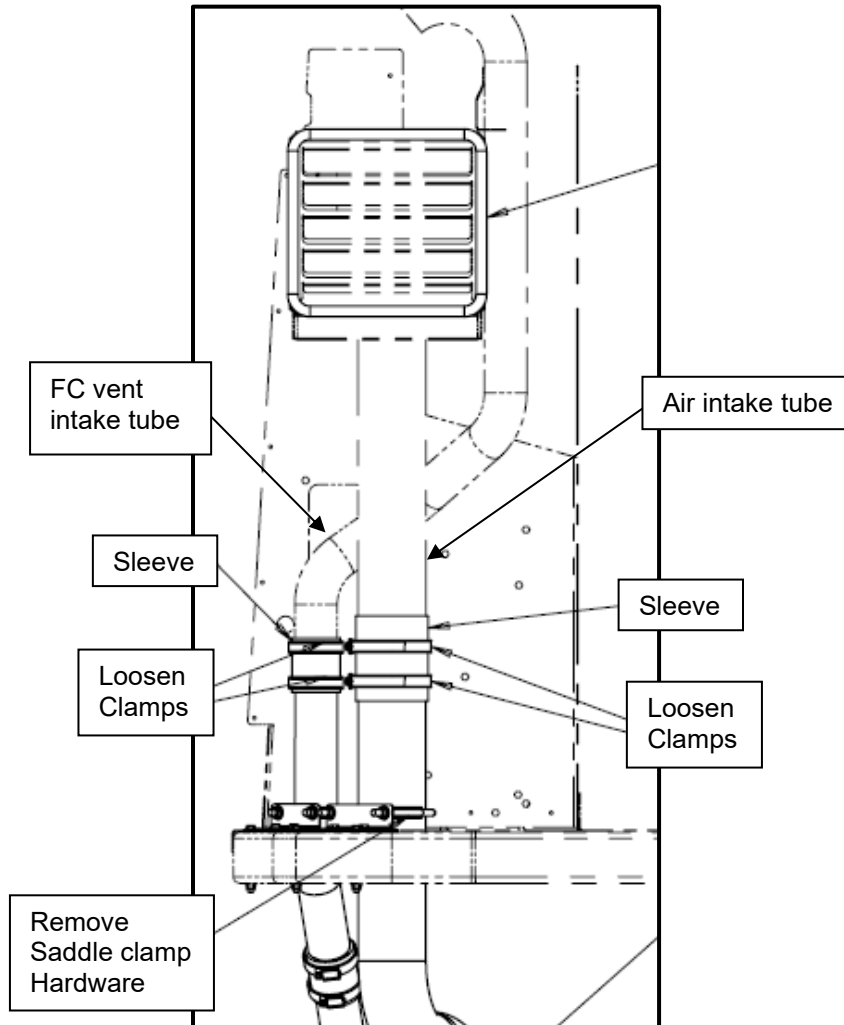

Figure 3: Sleeve and saddle clamp location reference
8. Loosen the two clamps from each sleeve located at the base of the vertical air intake tube and FC vent intake tube. See figure 3.
9. Remove hardware from saddle clamps and set aside for reinstallation. See figure 3.